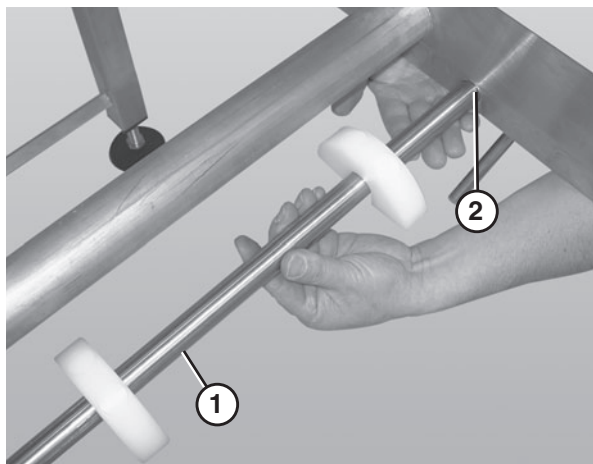

Figure 35
2. Slide the return shaft (**Figure 35, item 1**) up and through the large slot (**Figure 35, item 2**) in the frame (picture shown without the belt or wear strips).
3. Push up on the return shaft (**Figure 35, item 1**) and slide the notched end of the shaft through the small slot on the opposite side of the frame.